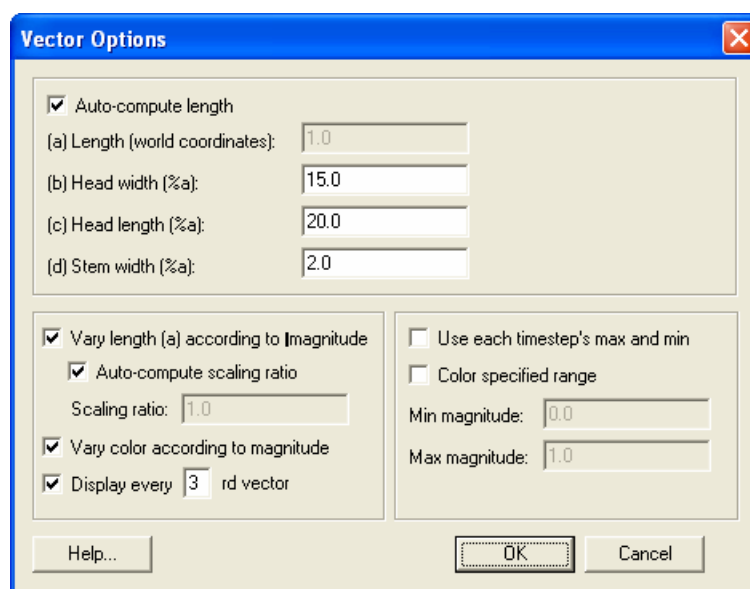

Figure 15.1 Vector Options Dialog
5. Change the settings to be as shown in Figure 15.1 below.